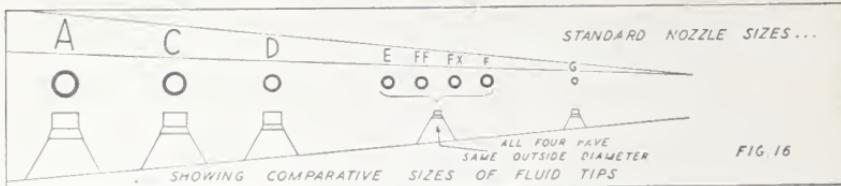

FIG. 16
Standard sizes are as follows: A-C-D-E-FF-FX-F-G. (See Fig. 16.) Note: "Nozzle" by usage refers to the opening in Fluid Tip.
Sizes E-FF-FX-F (Fig. 16) are most generally used.
1. Heavy, coarse or fibrous materials require large nozzle sizes (Fig. 16), to permit passage of the material and prevent clogging.